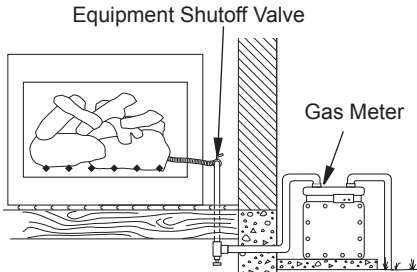
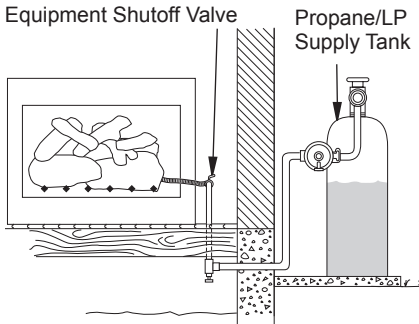

Figure 5 - Checking Gas Joints (Natural Gas Only)
Figure 6 - Checking Gas Joints (Propane/LP Gas Only)
3. Check all joints from gas meter for natural gas (Figure 5) or propane/LP supply (Figure 6) to equipment shutoff valve. Apply noncorrosive leak detection fluid to all joints. Bubbles forming show a leak.